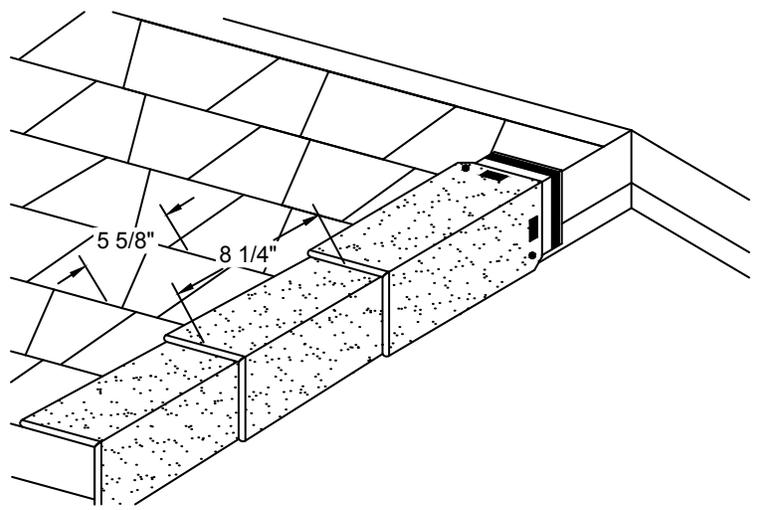

Figure 28 - Installation of EZ-Ridge® Shingles on Rake Edges of the Roof
3. Note: Installation with exposed nails may affect the aesthetic appeal of EZ-Ridge® shingles. (See **Figure 28**)